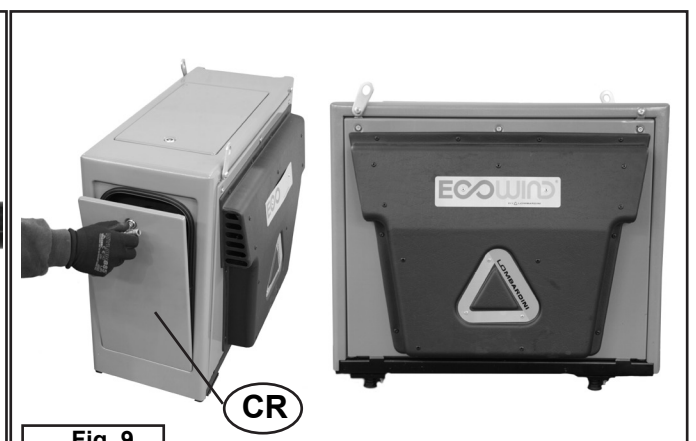

Fig. 9
- Fixed protection cases (**CR**) (Fig. 9);